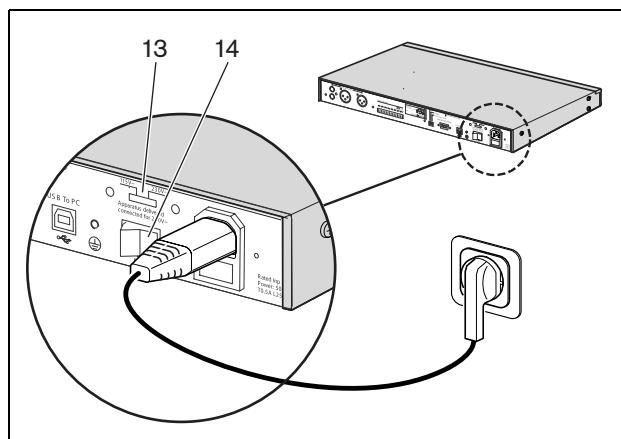

figure 3.8: Mains lead
- 1 Make sure the power switch (14) on the rear of the Timer is set to the "O" position (see figure 3.8).
- 2 Make sure the voltage selector (115V/ 230V) (13) is correctly set for the country's main voltage (see figure 3.8).
- 3 Use the mains lead to connect the Timer to the power supply (see figure 3.8).